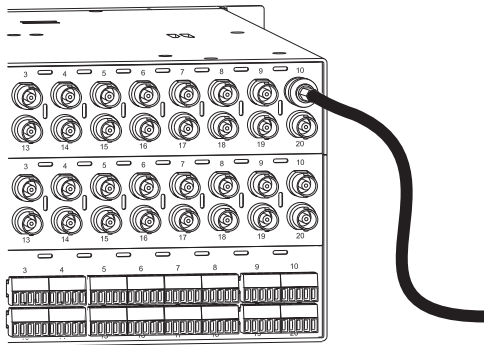

FIG. 22 Fasten cables onto input and output BNC connectors
1. Fasten the cables onto the input and output BNC connectors (FIG. 22).